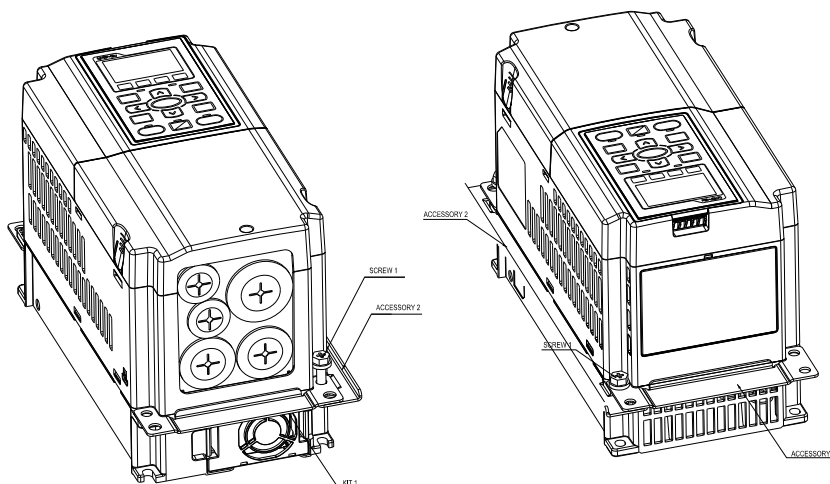

Figure 1
1. Fasten screw*2(M6) and accessory 2 &3. Screw torque: 25~30 kg-cm / [21.7~26 lb-in.] / [2.5~2.9 Nm] (figure 1)